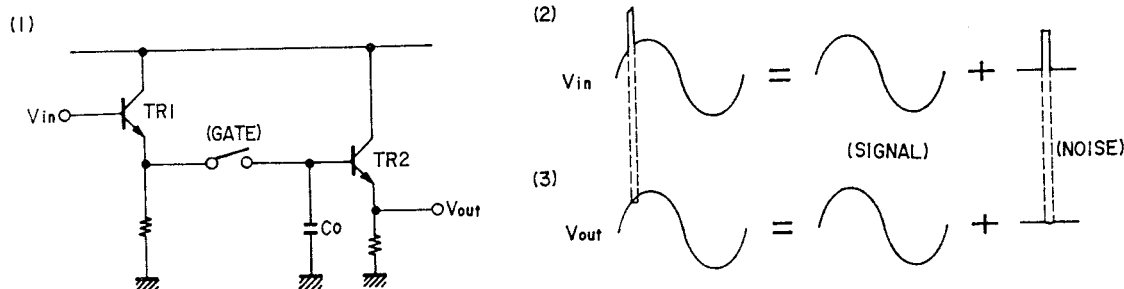

Fig. 19 Basic circuit for pulse noise suppression and wave forms
When the gate is closed as in Fig. 19(1), condenser C_0 is driven by a low impedance (emitter follower TR1) and therefore the output signal is the same as the V_{in} input.
When pulse noise enters, the gate opens immediately, and condenser C_0 maintains the signal level prior to noise input. When the noise stops, the gate closes and the wave form returns to normal. The output wave form V_{out} becomes similar to the wave form of Fig. 19(3). In terms of noise alone, it means that the noise (2) is suppressed as in (3).
When the aforementioned circuit is used on the stereo signals, the pilot signal is cut out while the gate is open and distorts the stereo composite signal to generate irritating noise. To prevent this distortion, during the time gate is open a 19 kHz sine wave of the same amplitude and phase as that of the pilot signal is generated from the pilot signal generating circuit (19 kHz sine wave generating circuit). This is added to the holding condenser Fig. 19(1) electric potential while the gate is open and compensates the pilot signal.